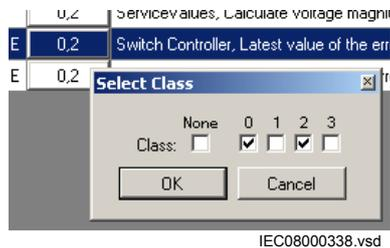

Figure 68: CMT: Select Class window
- Make the selection according to the definitions in the project and click *OK* to close the window and get the new configuration, see Figure 68.